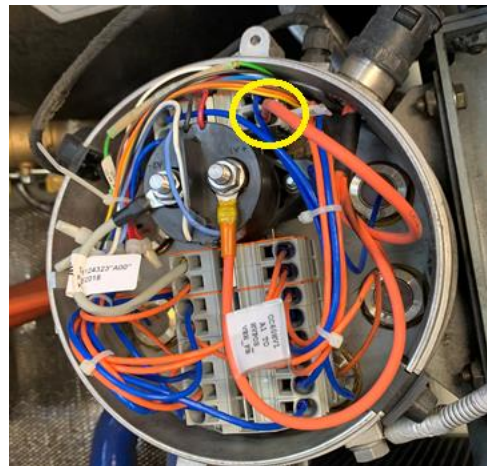

Figure 22: High Voltage Negative Auxiliary Heater Connection
66. Lightly pull on the orange high voltage cable circled below in figure 22 and connected to the terminal block to ensure proper cable securement.